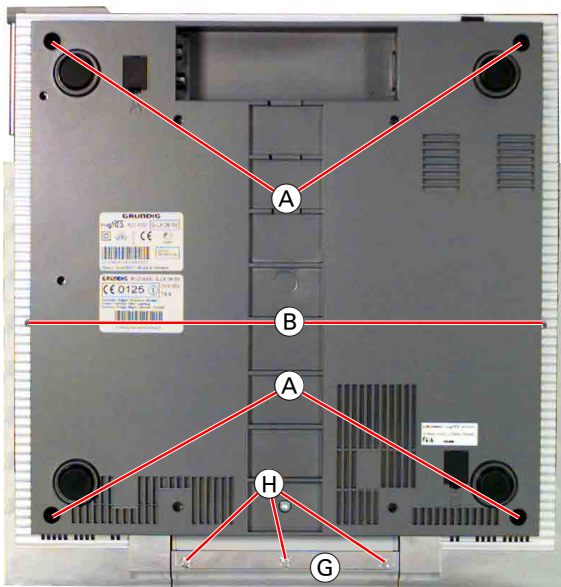

Fig. 1
- 4 Schrauben (A) und 2 Schrauben (B) (Fig. 1) herausdrehen.
Alternativ: 3 Schrauben (H) (Fig. 1) herausdrehen und die CD-Blende (G) abnehmen.
- Undo the 4 screws (A) and the 2 screws (B) (Fig. 1).
Alternative: Undo 3 screws (H) (Fig. 1) and remove the CD Cover (G).
- Undo 3 screws (D) and 3 screws (E) and take off the covers (C) towards the front.
- Undo 4 screws (F) and take out the CD Drive (open connectors beneath the Drive if necessary).